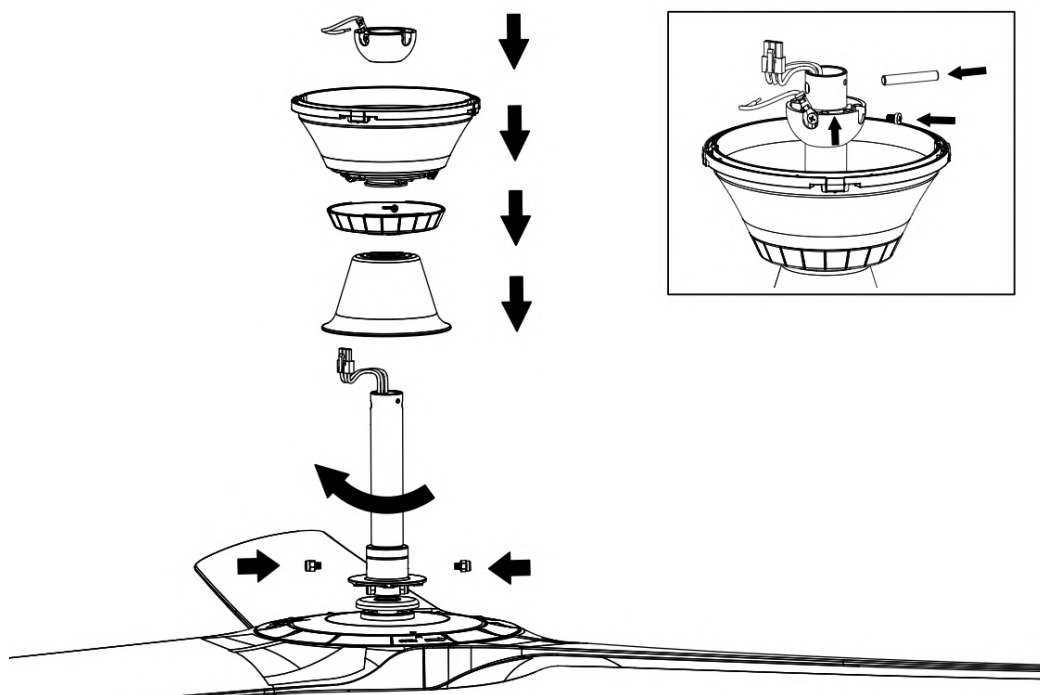

Fig. 9.3
3. Install the down rod joint cover, canopy bottom cover, canopy & ball joint back to the fan assembly. Ensure all the screws are tightened and secure. (Fig. 9.3)